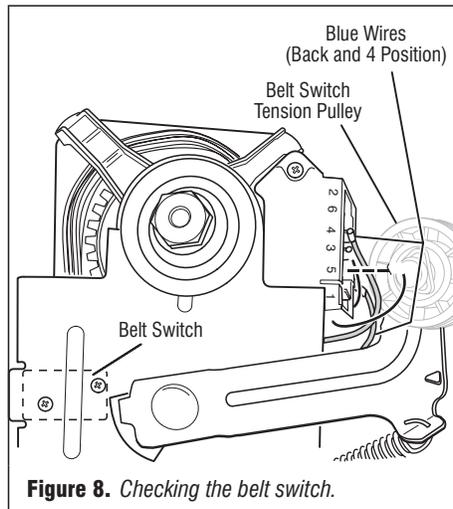

Figure 8. Checking the belt switch.
- Check the belt switch by measuring resistance between the two blue wires as shown in figure 8, while pushing up the belt switch tension pulley.